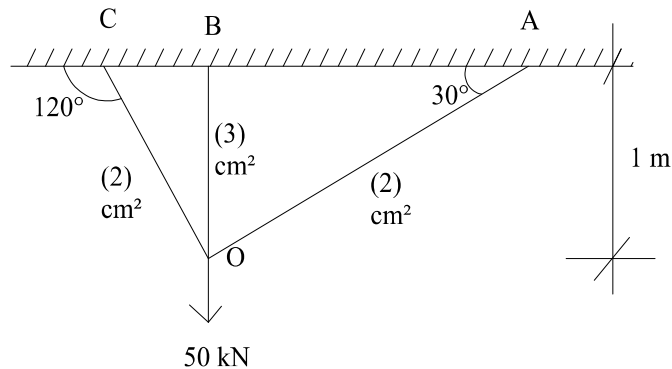

Fig.1
1. Determine the forces in the members of the truss shown in Fig.1 by matrix stiffness method. Take $E = 200\text{GPa}$.